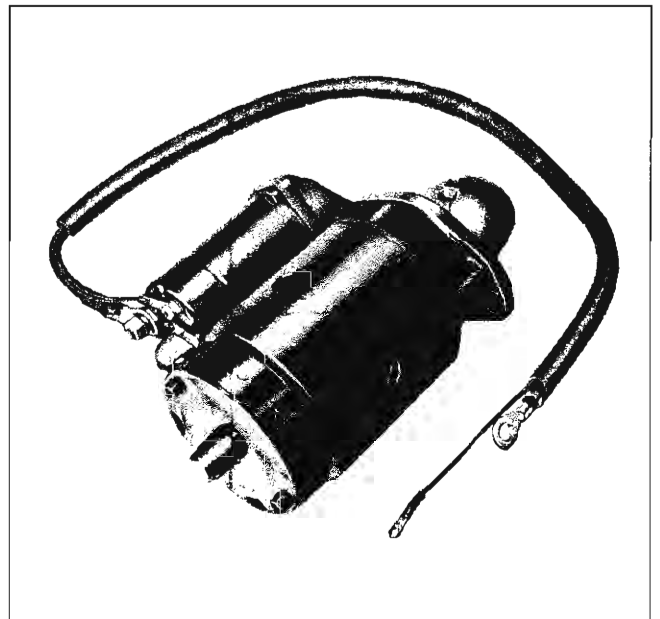

Fig. 11-14 Cable to Solenoid
1. Connect battery cable and solenoid wires to solenoid as shown in Fig. 11-14.